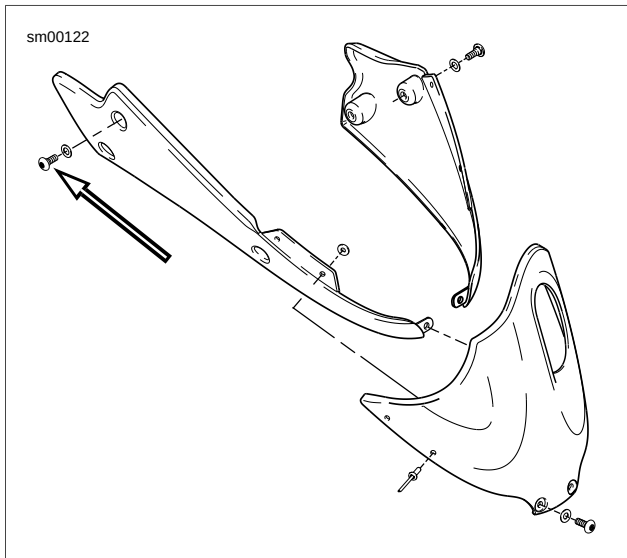

Figure 2-161. Chin Fairing Assembly, Right Rear Fasteners
1. See Figure 2-161. Remove rear right chin fairing fasteners.